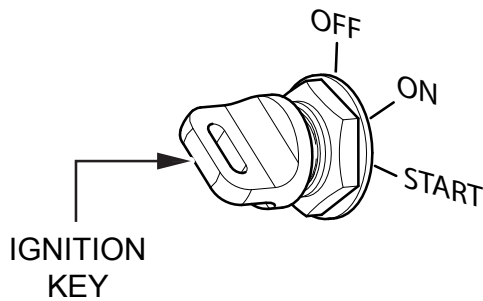

Figure 21. Ignition Switch
7. Insert the ignition key into the ignition (Figure 21), then turn and hold the key in the clockwise position until the engine starts, release key.